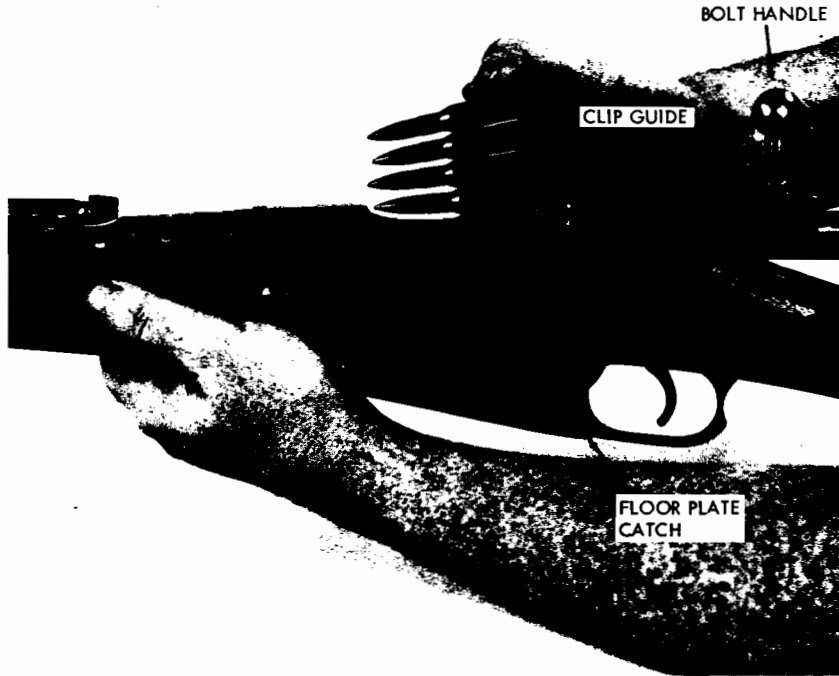

Figure 49. Loading the Model 1944 carbine.
a. Open the bolt by turning the bolt handle (fig. 49) to the vertical position; then pull the bolt fully to the rear. Load the magazine by:
(1) Inserting a 5-round stripper clip into the clip guides in the receiver (fig. 49) and pressing the cartridges from the clip into the magazine; or
(2) Placing individual cartridges in the receiver and pressing them down into the magazine until they are caught by the interrupter. Be sure that the rim of each cartridge, as it is loaded, is ahead of the rim of the preceding cartridge.
g. To unload or clear these weapons, open the bolt (par. 84a) and release the floorplate catch (fig. 49) by pressing it to the rear. The floorplate and the magazine platform will swing out of the magazine, along with any cartridges. Inspect to insure that no cartridges remain in the barrel or magazine, then swing the floorplate back into position, close the bolt, and press the trigger.
c. Open the magazine by pressing the floorplate catch (fig. 49) to the rear and swinging the floorplate down. Squeeze the magazine platform against the floorplate and pull the floorplate away from the magazine.